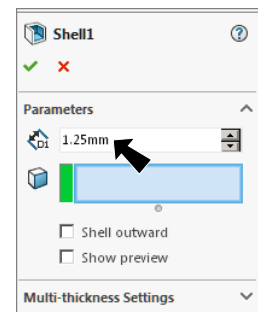

Fig. 14
Step 3. In the Shell Property Manager: under Parameters, **Fig. 14**